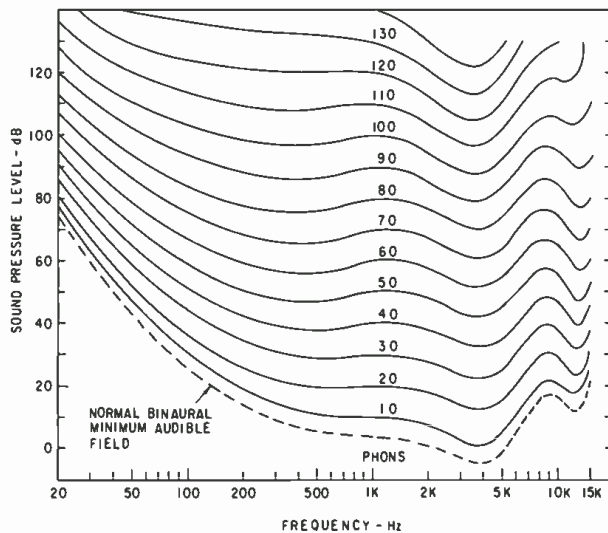
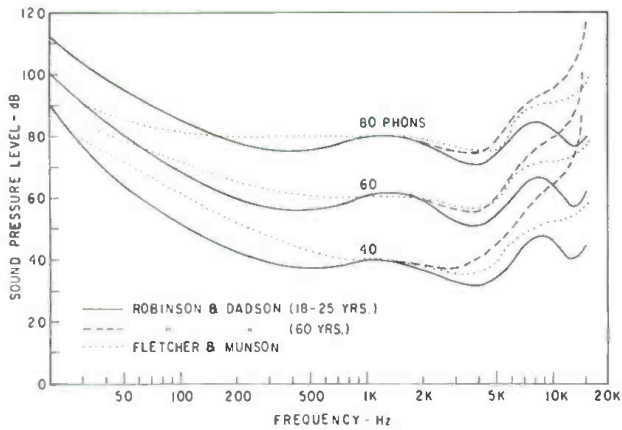

Figure 1. The Robinson-Dadson equal-loudness contours for pure tones. (after 150 Recommendation R226)
Figure 2. Equal-loudness contours showing the effects of age.
Figure 1. At (A) we find a listener in a control monitor room, while at (B) he is in an auditorium, or the studio. In the monitoring room, the paths of the direct sound and the reflection differ by a few feet so they arrive only a few milliseconds apart. In the auditorium/studio they are separated by more than ten times that period. From this fundamental difference grow the many distinctions between the sound in the two types of rooms.
Although Fletcher and Munson were the first to produce a set of equal-loudness contours, they were not the last. The most recent redetermination of the loudness relationship for pure tones was by Robinson and Dadson at the National Physical Laboratory in England.2 These contours, shown in FIGURE 1, have been adopted by the International Standard Organization (ISO Recommendation R226).
Fletcher and Munson, in their earlier work, had originated a scale of loudness level or equivalent loudness using the unit *phon*. According to this method, the loudness level, in phons, of a sound is the sound pressure level of a 1000 Hz pure tone which is judged to be equally loud. The contours of FIGURE 1 are therefore identified in phons.
Probably the most obvious fact to be extracted from the curves of FIGURE 1 is that at the lower sound levels, both low- and high-frequency tones must be boosted in order to sound as loud as middle-frequency tones. Although the basic shape of the contours remains similar throughout, one can see a slight flattening of the contours at high sound levels, particularly at low frequencies.
The equal-loudness contours of FIGURE 1 were obtained with subjects in the age range 18-25 years. In FIGURE 2 three of these contours have been reproduced but with supplementary dashed curves at the high-frequency end describing results with listeners aged 60 years.
For general interest, the comparable Fletcher-Munson contours have been included in FIGURE 2 (dotted curves). At high frequencies the Fletcher-Munson contours fall generally within the range of age dependency. Below 1000 Hz the differences are large and inconsistent.